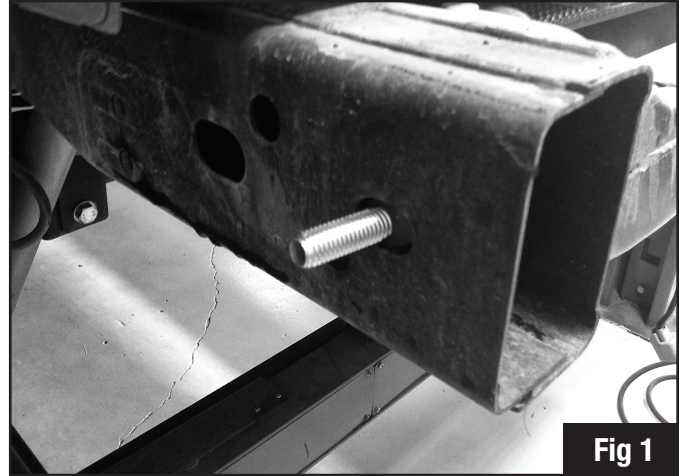

Fig 1
1) Install the supplied frame lock bolts into the frame rail as shown. **Fig 1.**